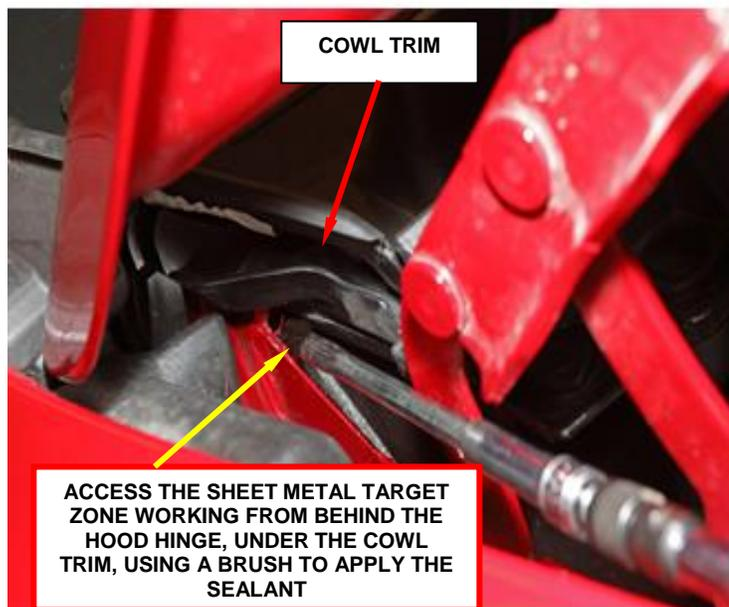

Figure 15 – Sealant Application (Right Side Shown)
2. Using a brush of adequate size, apply MOPAR RTV sealant (approximately 0.3 oz./10 grams) on the metal sheet areas as shown. (Figure 15).
IMPORTANT: The sealant must be applied to the target area as shown (Figure 15).